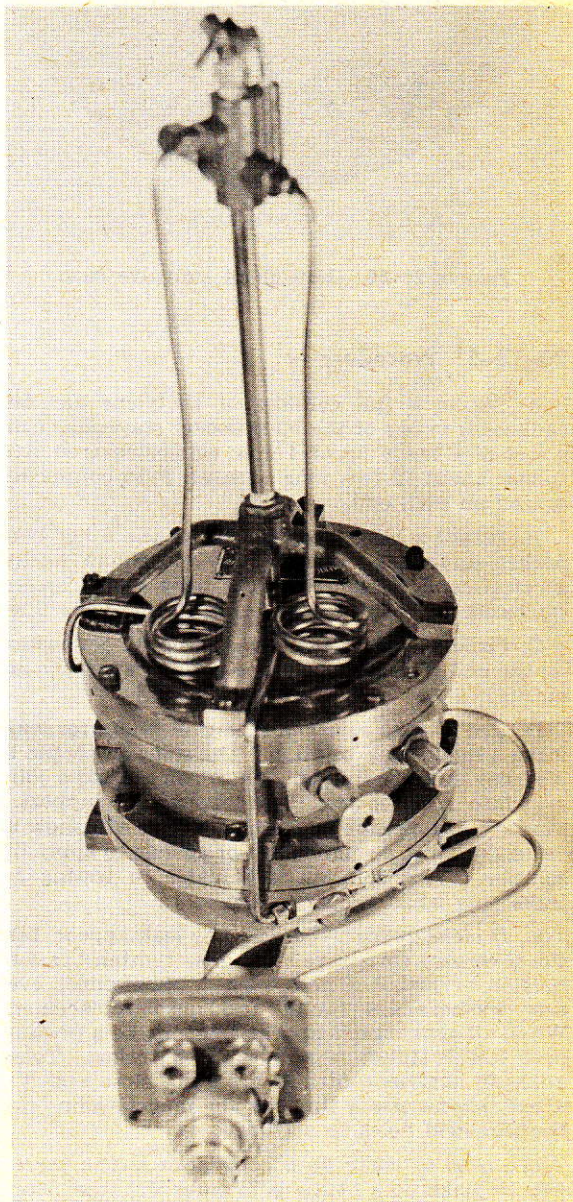

FIGURE 20-79.—Interior sunvalve tubing.
(3) Remove the short tubing between the regulator and the flasher.
(4) Make up a set of interior piping using 4-mm. brass tombac tubing and F-60 connections. One piece of tubing connects the regulator to the right hand threaded hole (F-60) in the sunvalve cock. The other leads from the remaining threaded hole in the valve to the flasher unit. See figure 20-79 for this interior piping. For the exterior piping use 4-mm. copper-covered steel tubing, not that it is needed for pressure reasons but because it can stand more abuse in handling.
(5) Two pieces of tubing, with F-40A connections, lead from the sunvalve cock in a small radius curve toward the base of the lantern and then spread right and left respectively up in such a manner as to follow the diagonal bars of the stormpane section. They then come together again and curve out as necessary to lead fair into the sunvalve. No provisions are made in the bases of Service-type lanterns for installing sunvalve cocks. When required,